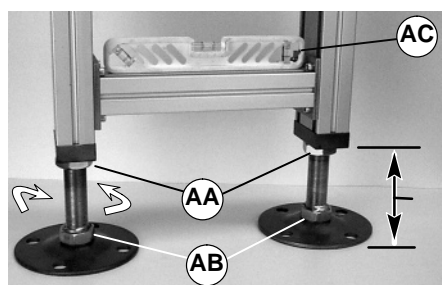

Figure 11
1. Loosen jam nuts (AA of Figure 11 or 12).
2. Rotate nut (AB of Figure 11 or 12) to adjust height and level stand (AC of Figure 11).
3. Tighten jam nuts (AA of Figure 11 or 12).